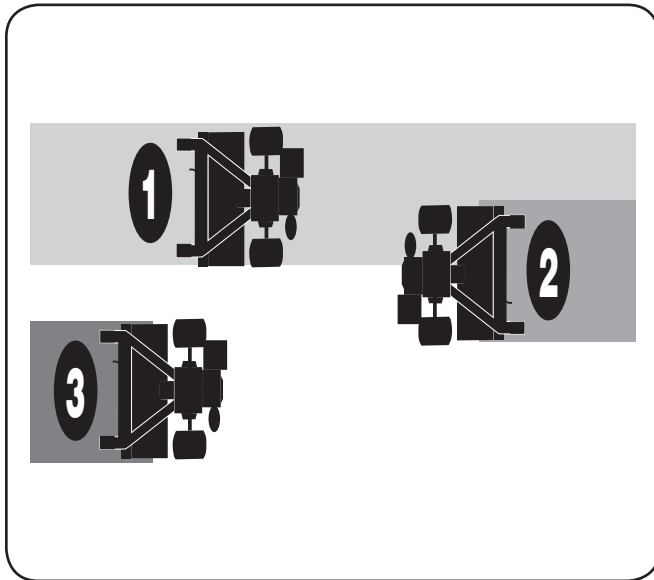

Figure 5-7
- If the garden size will not permit lengthwise and then crosswise tilling, then overlap the first pass by one-half a tiller width, followed by successive passes at one-quarter width. See Fig. 5-7.